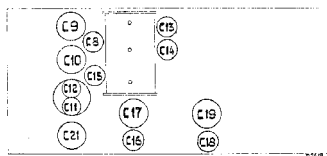

Fig. 4.
11. Trim C19 for maximum output (see Fig. 4).
- Adjust S8 for minimum output (see Fig. 4).